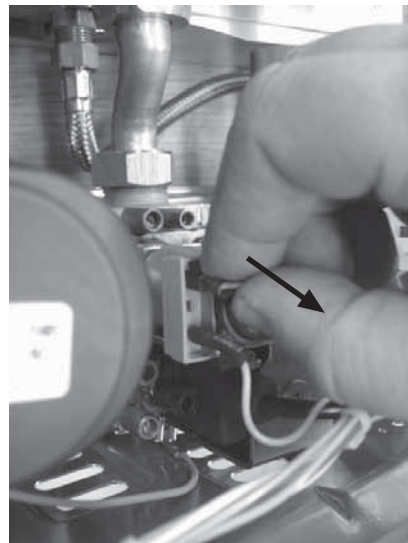

Figure 43
- Remove one lead from the modulating gas valve coil. (*Figure 43*)